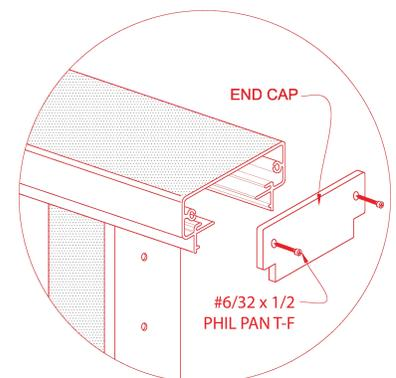

Fig 16
**7A** Once the corners are installed, measure and cut top rail for the remainder of the railing system. Keep in mind that the top rail is used in the longest lengths practical since longer railings will incorporate more posts and strengthen the handrail. At the end of the railing, let your top rail run past the post about 1" (Fig 16). Also remember that any rail/rail butt joints must terminate at the center of a post (Fig 13). Pre-drill 9/64" pilot holes through the outer face of the top rail into each post (Fig 11) and install x2 #8x3/4" Phillips Panhead Tek 410 SS Screw (included) for **INTERMEDIATE POSTS** and (x4) screws for the **TERMINAL POSTS**. Make sure the post is square to the top rail, by slightly shifting the top of the post left or right if necessary before pre-drilling and installing the screws. Where the top rail meets a **TOP RAIL CORNER**, substitute the screw for the bolt assembly that came included with the corner (Fig 10).
Using the supplied screws (x2 6-32 Type F Thread Cutting Pan Head), install the TOP RAIL END (Fig 16).